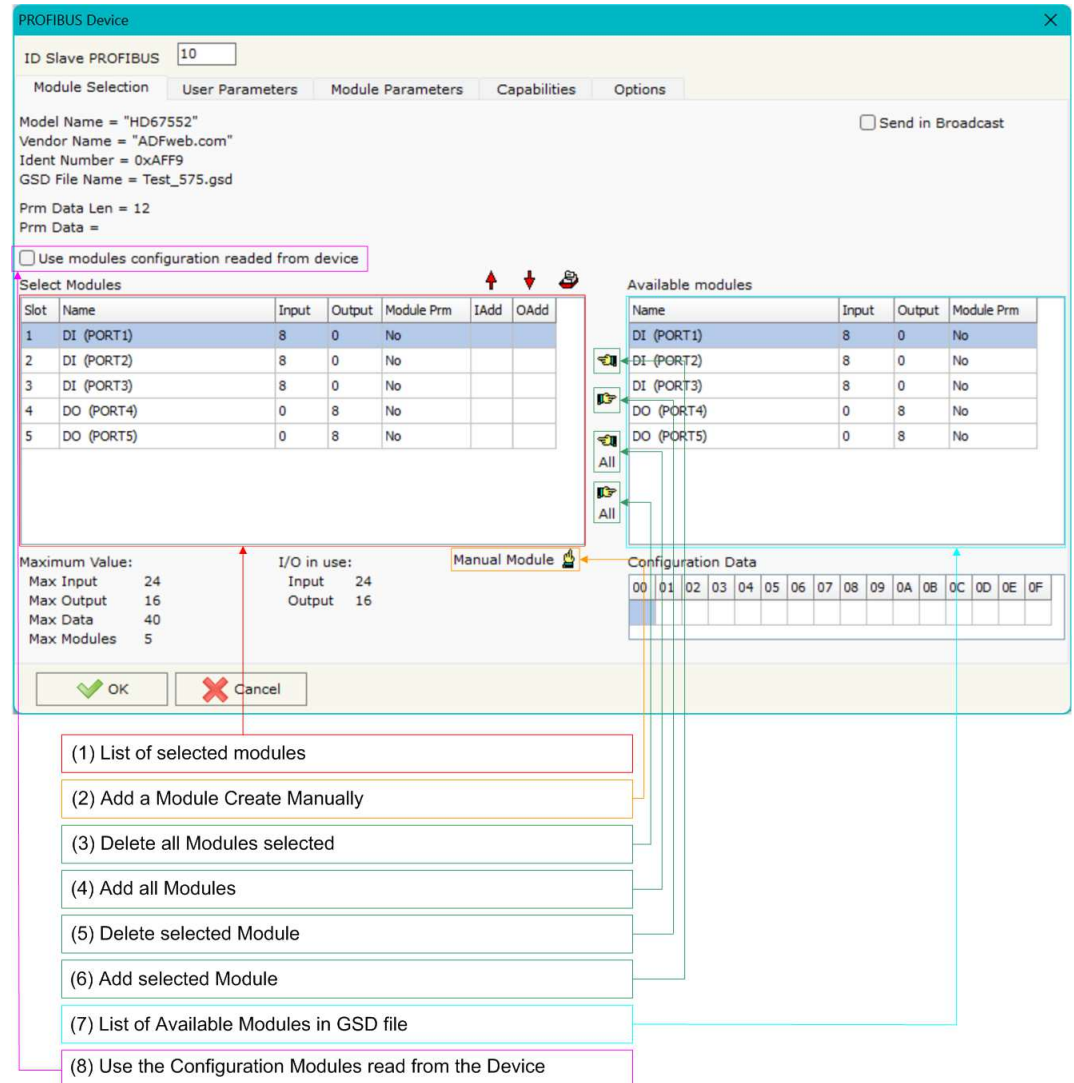

Figure 7: "PROFIBUS Device – Module Selection" window
The section "Module Selection" is used to select which Modules are present in the Slave (Fig. 7).
- Check the list of the Modules selected ("Select Modules") (Fig. 7, point (1)) and the list of Modules Available in GSD file ("Available Modules") (Fig. 7, point (7));
- Add a Module from the list of GSD file (Fig. 7, point (6));
- Remove a Module from selected list (Fig. 7, point (5));
- Add all Modules present in the GSD file (Fig. 7, point (4));
- Remove all Modules from selected list (Fig. 7, point (3));
- Insert a Module not present in the GSD file ("**Manual Module**") (Fig. 7 point (2)). For more info see the section "Manual Module" below;
- Enable the read of configuration directly from the PROFIBUS Slave ("**Use module configuration readed from device**") (Fig 7, point (8)). If this option is enable the configuration of the modules is discarded and the device read the correct configuration directly to the PROFIBUS slave.
To modify a Module inserted manually, is neccessary to do a double click on the module to change in the "Select Module" list (Fig. 7, point (1)). It is possible to change only the module inserted manually.